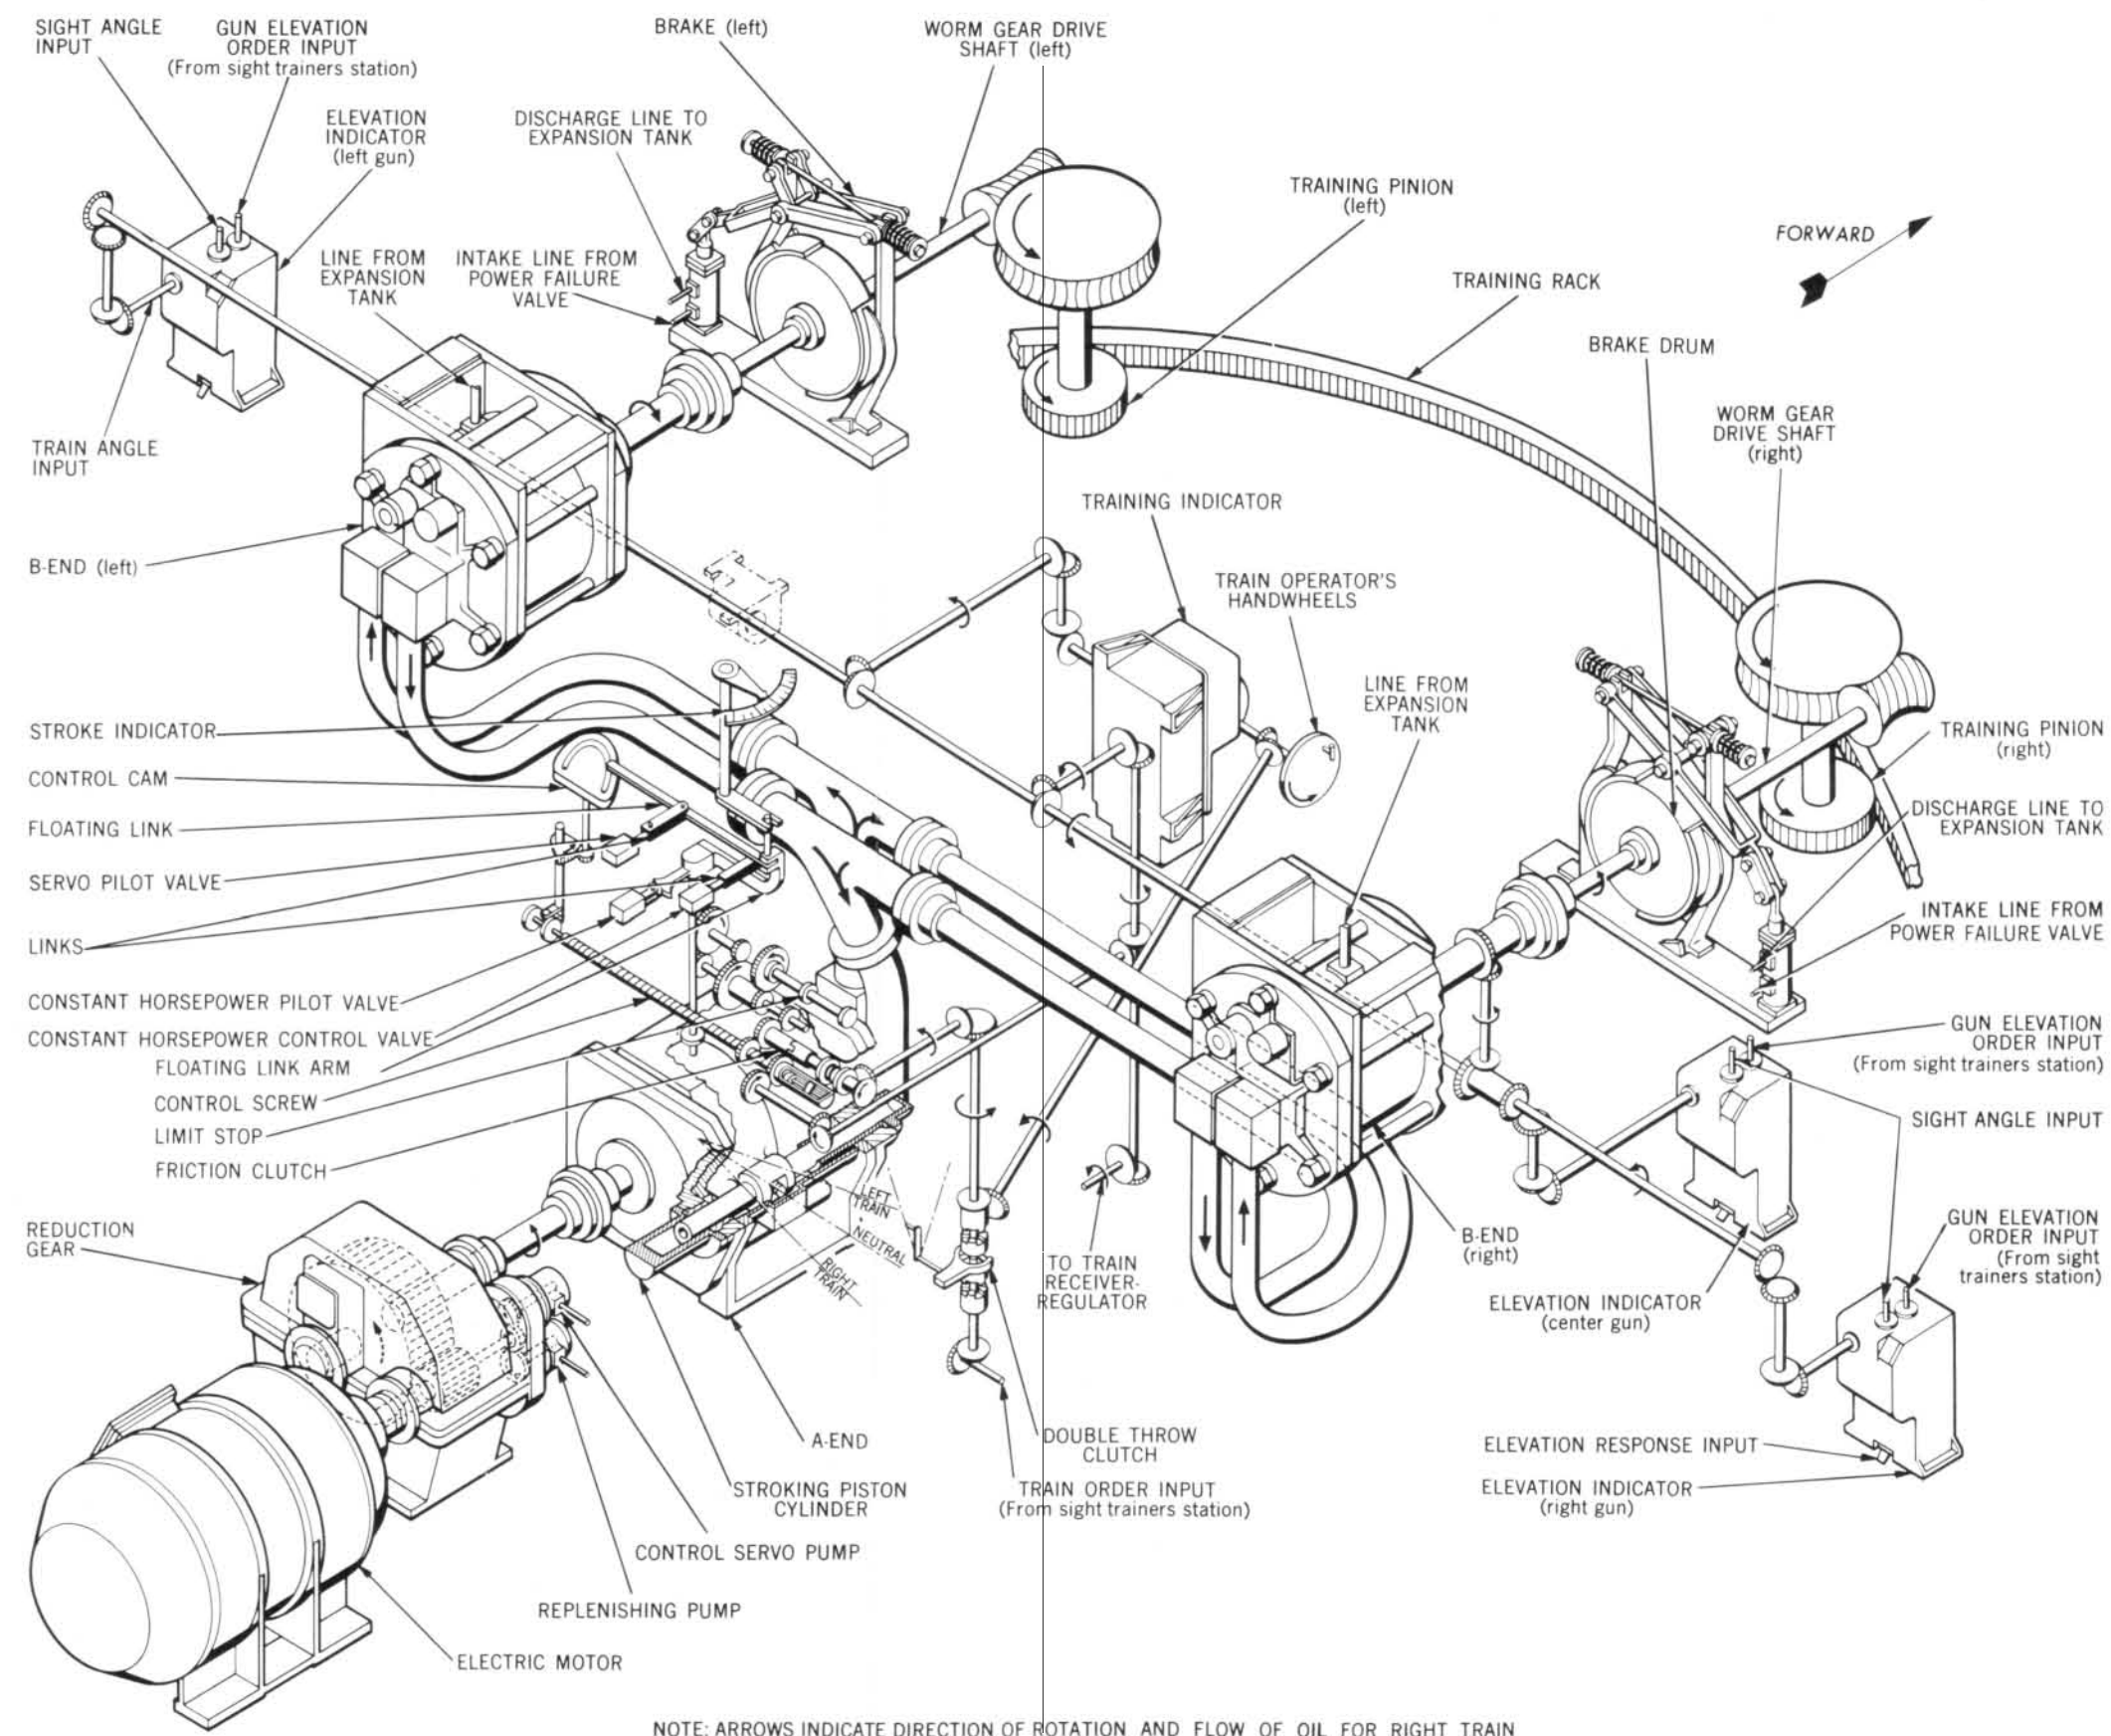
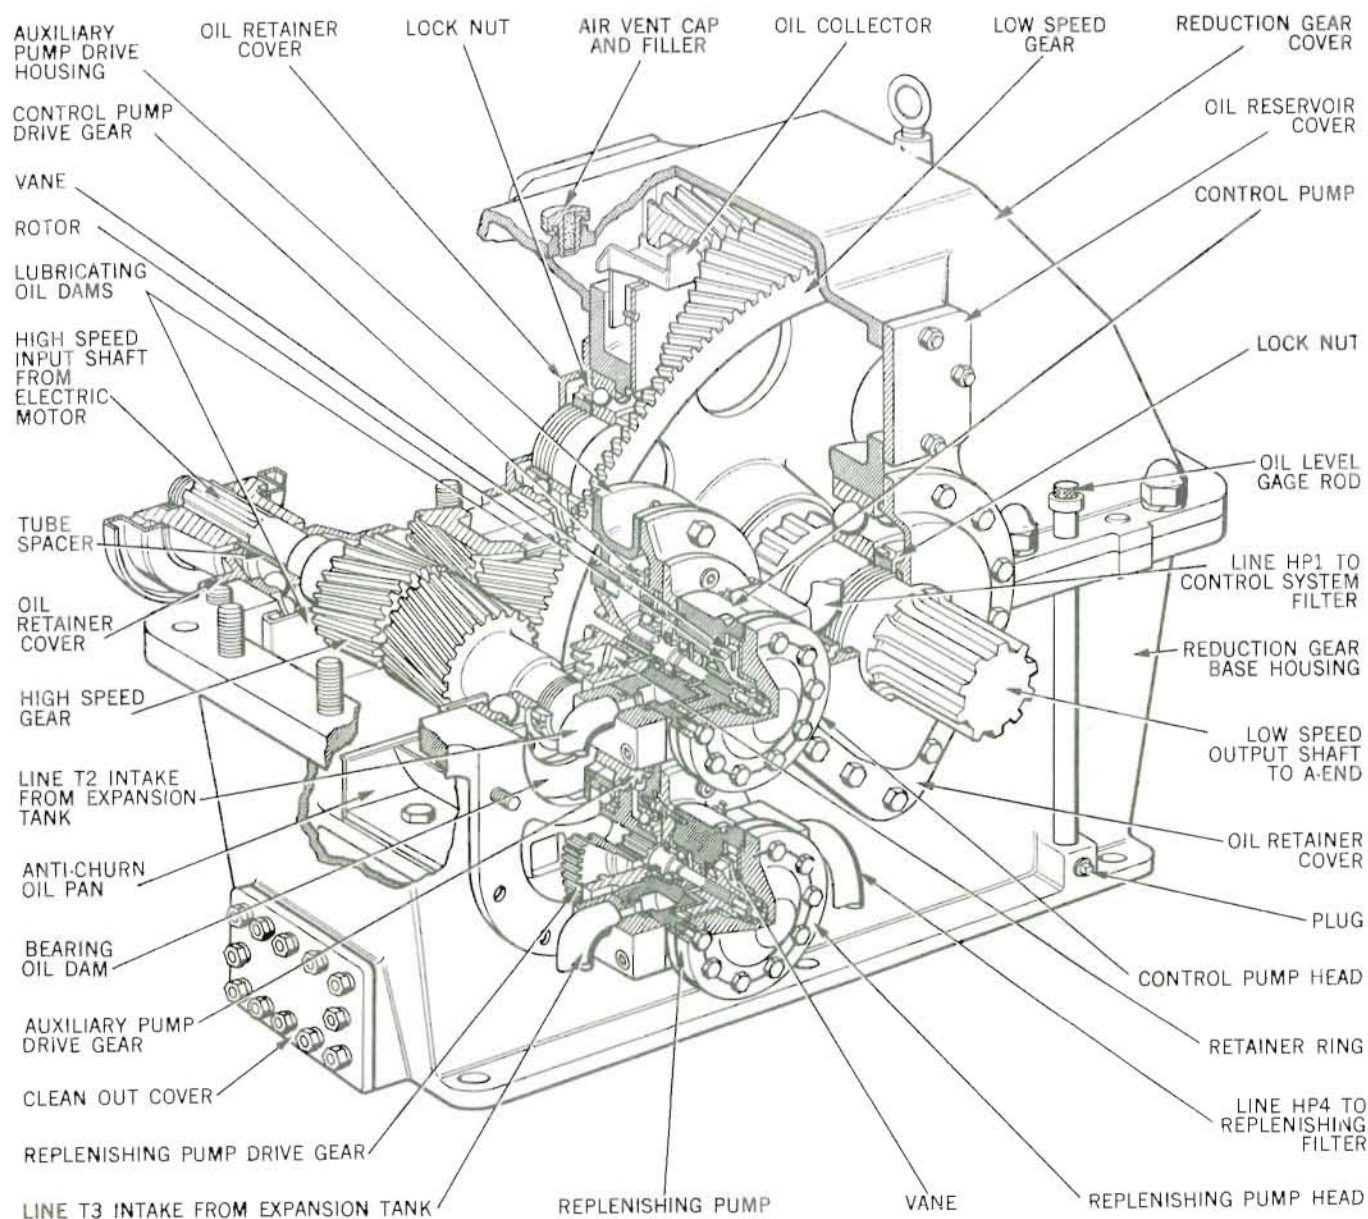

Figure 6-2. 16-inch Training Gear Mk 2 Mod 0, Schematic Arrangement
Figure 6-4. Training Gear Reduction Gear and Replenishing Pump Assembly, Cutaway View
The B-end assemblies are located above the pan floor at the forward part of the turret, in the spaces between the parallel divisional bulkheads formed by the gun girder boxes, with a B-end mounted either side of the center gun girder box. The training worm, wormwheel, and pinion assemblies are located forward of their respective B-ends. Relative positions, worm couplings, and A-end manifold pipe connections are shown in figure 6-2 together with the annular training rack.
In AUTO control, the receiver-regulator receives gun train order electrically from a remote control station. Actual train angle of the turret is automatically transmitted to the receiver-regulator through a mechanical response gear. A difference between train order and actual train angle results in offset movement of the A-end tilting box (fig. 6-2) through a hydraulic control valve and the servo piston. The amount the tilting box is offset from neutral, determined by the turret position "error," regulates the speed of the B-ends as they drive the worm and pinion assemblies. "Follow up" control is provided by shafting and gearing that feeds B-end response back to the receiver-regulator, and to the A-end tilting box to return it to neutral.
The hydraulic power drive of the training gear assembly is composed of a variable-displacement pump (the A-end) and two fixed-displacement motors (the B-ends). Each B-end is mechanically independent of the other, and both are independent of the A-end. The A-end is connected to both B-ends by the large hydraulic pipe manifolds shown in figure 6-2. The A-end, the B-ends, and the pipe manifold connections are the basic units that transmit hydraulic power for training the turret. They function to convert input shaft rotation of constant speed and direction to reversible, variable-speed rotation of the B-end drive shafts.
Arrangement. The arrangement of the power drive components is shown in figure 6-2. The electric motor drives the A-end pump at constant speed through the reduction gear. Two large pipe manifolds connect the valve plate ports of the A-end with the valve plate ports of the two B-ends. The B-end shafts
Reduction gear. The reduction gear, shown in figure 6-4, is a speed reducer for driving the A-end with a separate drive on the high speed input shaft for the auxiliary pumps. The unit consists of a spur gear and pinion enclosed within a vented case arranged for oil-bath lubrication. The case includes a depth-rod gage for checking the oil level. The reduction gear is mounted and coupled between the electric motor and the A-end, as shown in figure 6-2.
Hydraulic pump (A-end). The (A-end) hydraulic pump (figs. 6-2 and 6-5) is a type K, size 150, variable-stroke, multi-cylinder, positive displacement pump. The assembly includes an attached stroking piston cylinder and a transmission control mechanism. The pump is a nine-piston rotating group of the same basic design as the A-end of the elevating gear (ch. 5).
1. The control pump (fig. 6-4) mounted on and driven by the reduction gear.